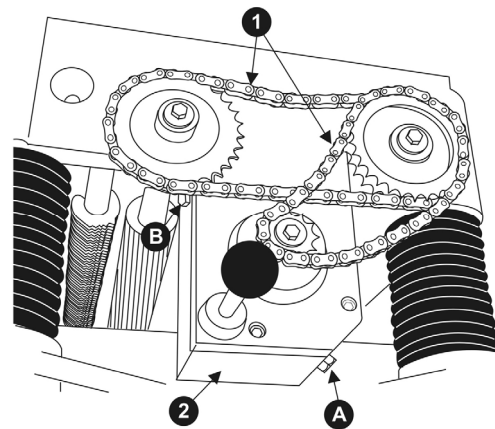

Figure 33
1. Remove the drain plug (A, Figure 33) with a 14mm wrench, and remove filler plug (B- Figure 33). Drain dirty oil thoroughly.
2. Tighten the drain plug (A, Figure 33).
3. Fill with clean lubricant through hole (B, Figure 33).
4. Reinstall and tighten filler plug (B, Figure 33).